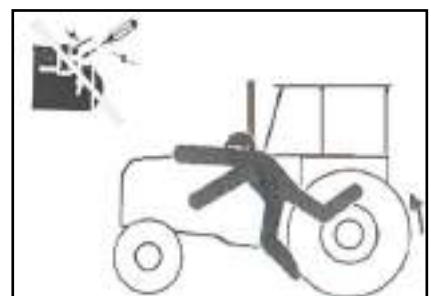

Fig. 12
- Do not start the engine by short-circuiting the starter because the tractor can drive off unexpectedly, if in gear (Fig. 12).